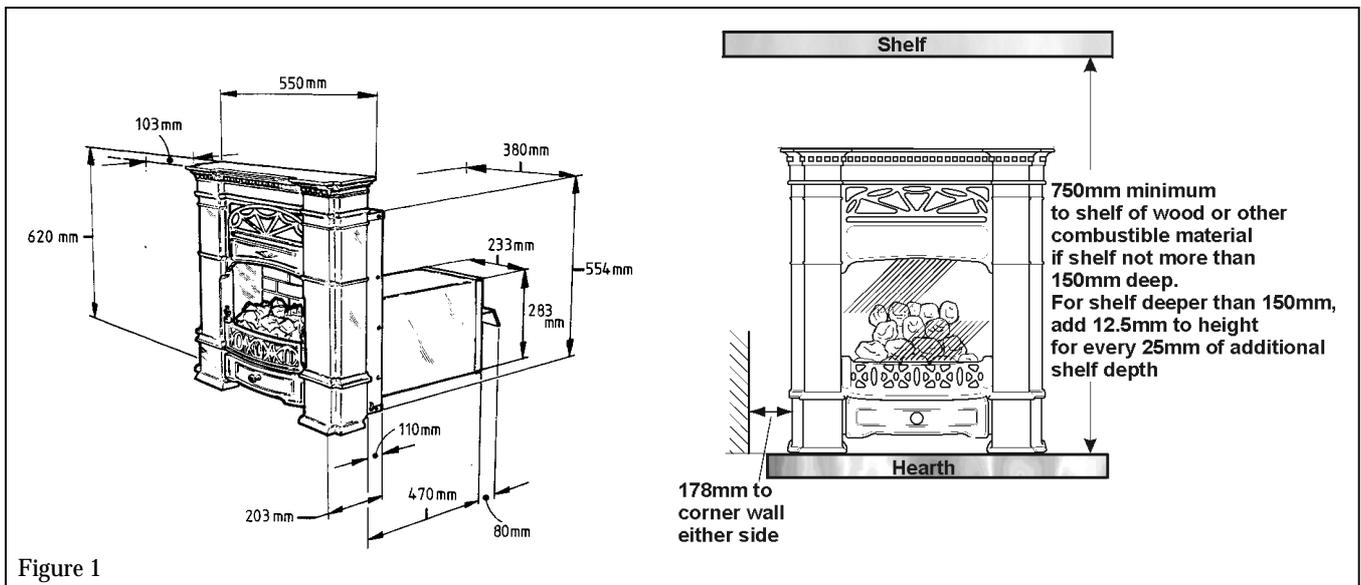

Figure 1
For a shelf deeper than 150mm, add 12.5mm to the clearance for every 25mm of additional shelf depth (see figure 1).
- Make sure that any combustible wall finish or cladding is removed from the area within the outer surround of the fire (see figure 1)
- Make sure that the fire is on a non-combustible hearth and that the hearth is at least the size shown in figure 1.
- Provide a minimum clearance of 178mm between the outer surround sides and any corner wall or other projection (see figure 1). Please bear this in mind if ever you are considering altering the room.